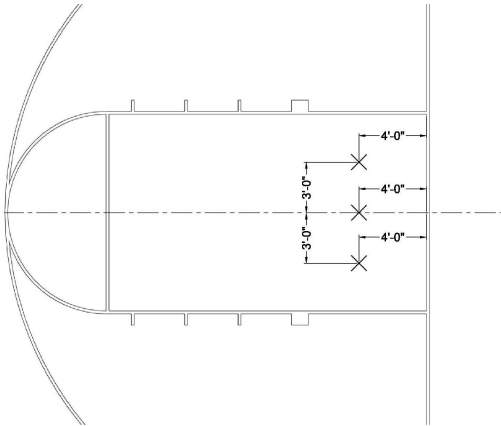

Figure 6
13. Using masking tape and pencil, Mark the location of the center of the court 4'-0" from the inside edge of the court baseline (refer to figure 6). From this center mark, establish a mark 3'-0" to the left and another mark 3'-0" to the right. These marks will be used to align the face of bank to the court.